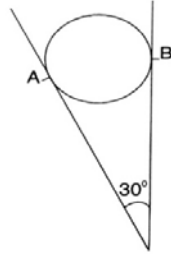

Fig. No.2
- b) Calculate the reactions offered by the notch surface if a sphere of weight 1200 N is resting in the notch as shown in the figure no.2.